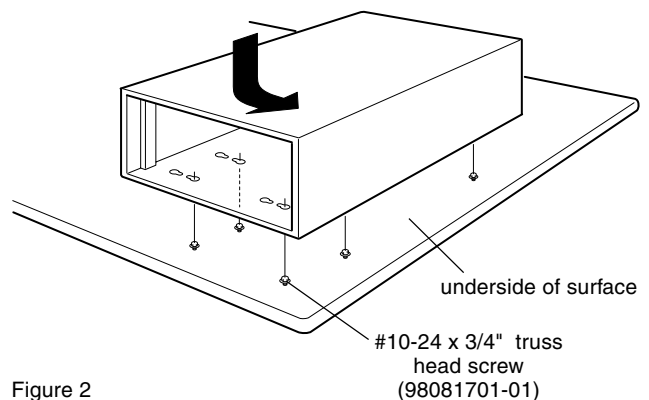

Figure 2
3. Align large end of keyhole slot on drawer case top over screws. Slide case toward edge of surface to engage. Using a 5/32" allen wrench, securely tighten all screws. (Figure 2)